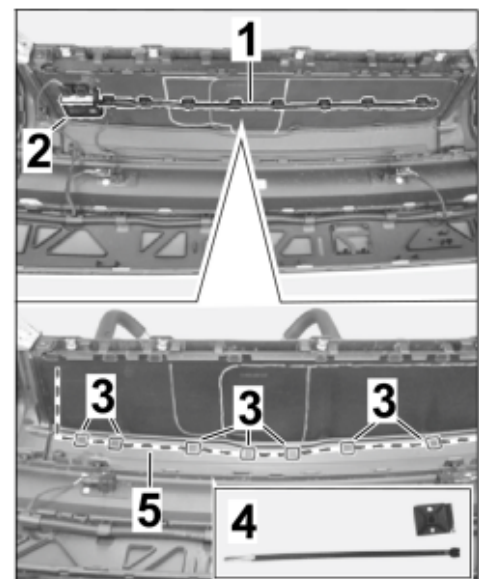

Figure 5
- 1.7.1 Carefully remove "Virtual pedal" antenna line with holder and tie-wraps (7 x) from the inside of the rear apron (⇒ Figure 5 -1-).
- 1.7.3 Clean bonding area in the new antenna line routing area to remove any dust and grease (⇒ Figure 5 -3-).